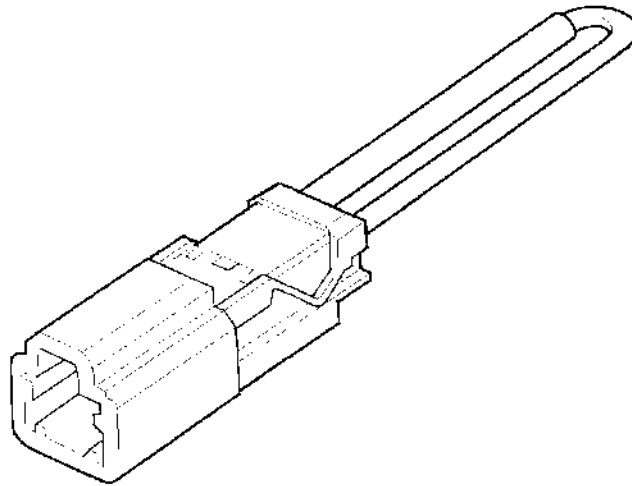

Figure 4-45 SCS Service Connector OEM# 07PAZ-0010100 (or use jumper wire equivalent)
2. Connect the SCS service connector (Acura 07PAZ-0010100) to the yellow 2-pin MES connector (Figure 4-45 on page 38).